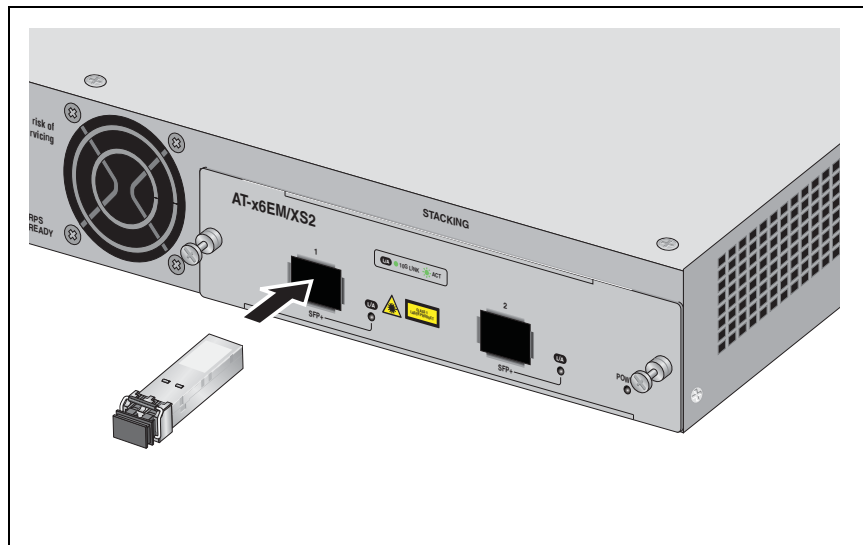

Figure 48. Installing an SFP+ Transceiver
4. Slide the transceiver into the slot until it clicks into place, as shown in Figure 48.